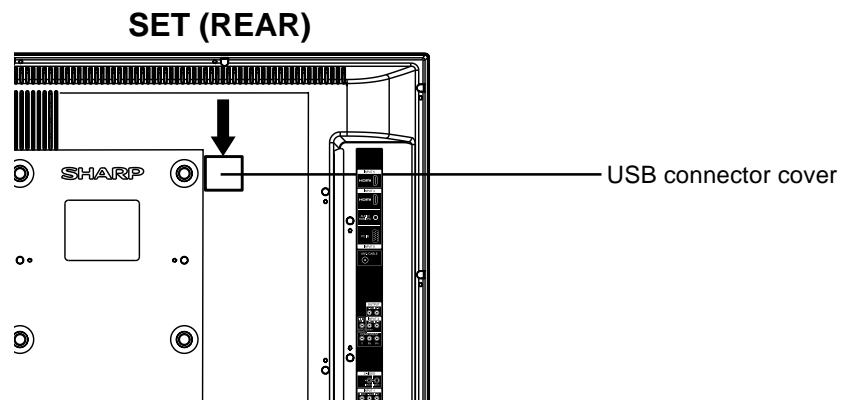

Fig.1
3. Set the minus driver to the topside of the USB connector cover, remove the USB connector cover. Insert the USB Flash Memory to USB connector. (**Refer to Fig.1**)